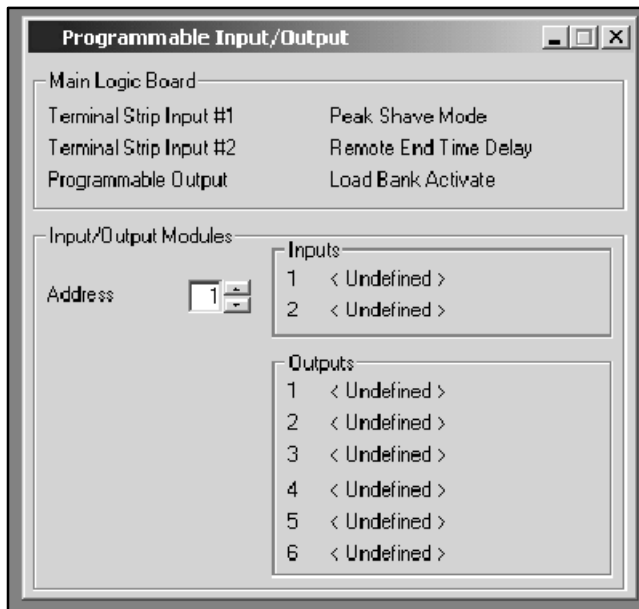
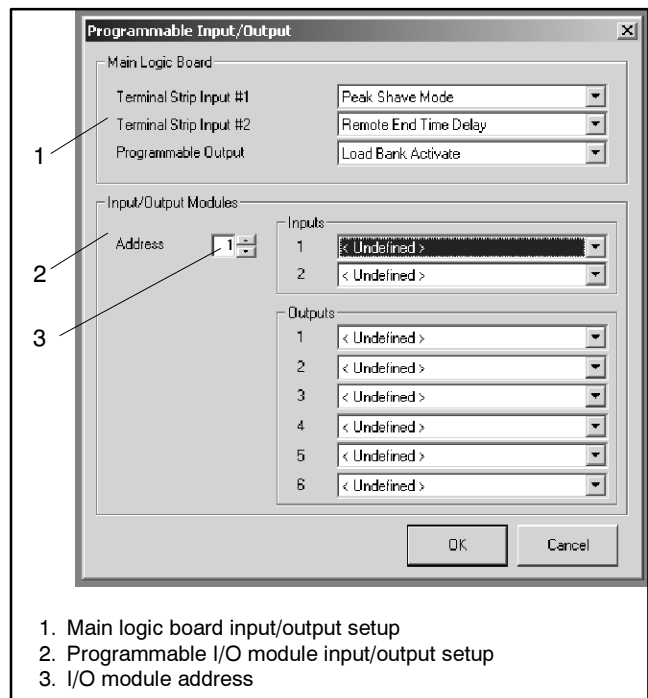

Figure 6-22 Programmable Input/Output Display
Figure 6-23 Programmable Input/Output Setup Window
1. Connect a personal computer (PC) to the ATS controller. See the Setup Program Operation and Installation Manual for instructions to connect the PC. Follow the instructions in the manual to install the Setup Program on the PC, if necessary.
5. Select Programmable Input/Output from the list and click OK to create the Programmable I/O data window on the PC's screen. See Figure 6-22. Then choose Window>Setup or double-click on the Programmable I/O window to bring up the setup screen shown in Figure 6-23.
7. Identify the location of the input or output connection to be assigned: one of the input or output connections on the main logic board terminal strip TB1 or one of the programmable I/O modules. See Figure 6-23.
Note: For I/O modules, be sure to select the module address on the left side of the setup window before assigning the input/output. See Figure 6-23.